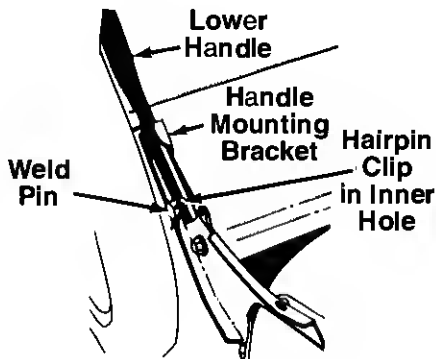

FIGURE 2.
2. Using a pair of pliers, squeeze one leg of the lower handle against the handle mounting bracket. Insert the hairpin clip into the **inner hole** in the weld pin. See figure 2. Repeat on other side.